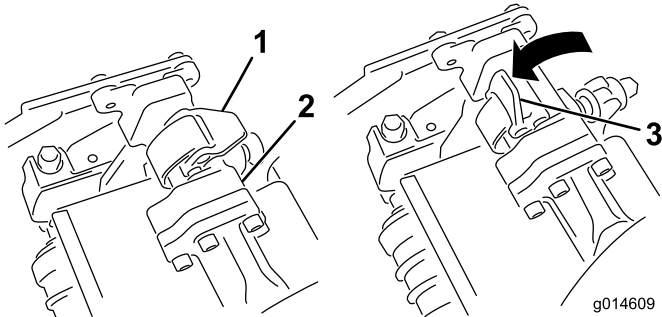
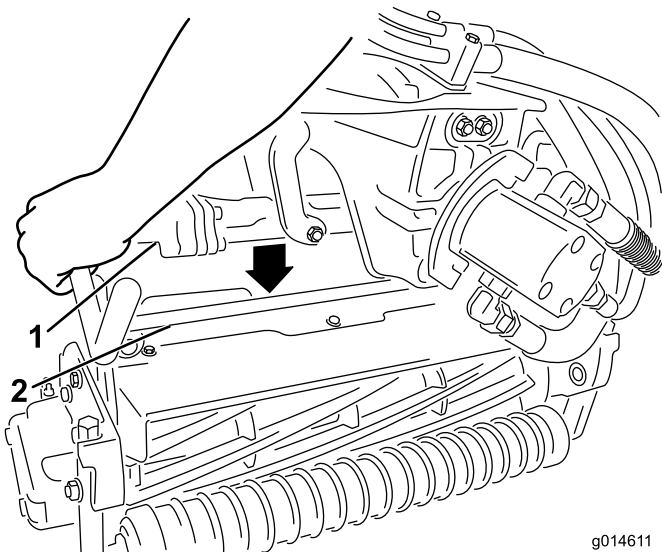

Figure 30
Figure 31
3. With the latches on the suspension-arm bar pointing up (i.e., open) (Figure 30), push the suspension arm down so that the bar fits over the bar across the top of the cutting unit (Figure 31).
4. Close the latches down and around the cutting-unit bar and lock them in place (Figure 30).
- Open the latches on the suspension-arm bar of the cutting unit you are removing (Figure 30).